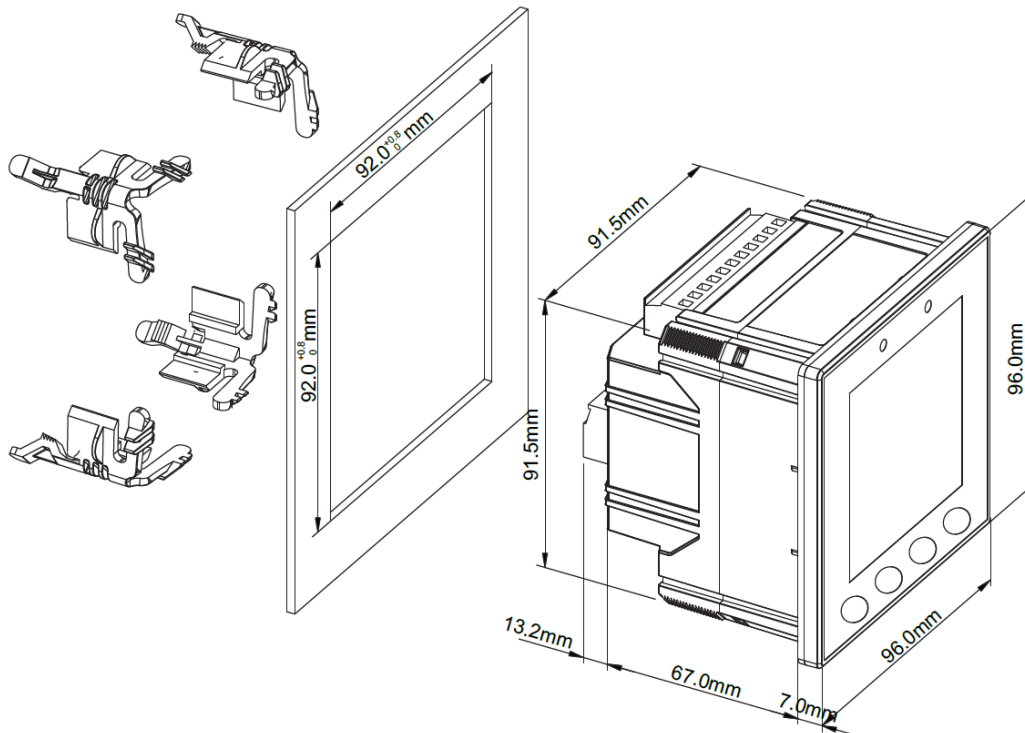

Figure 2-4 Panel Cutout Mounting
- Fit the meter through a 92mmx92mm cutout as shown in Figure 2-4